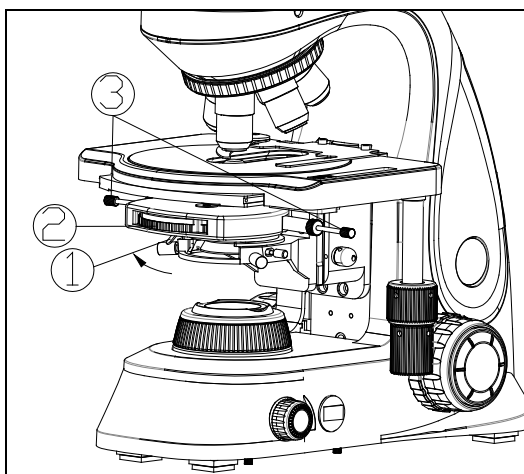

Fig. 21
Rotate the phase contrast ring② to “BF” position in bright field observation. When it sounds “ka-da” in rotating, it indicates that one diaphragm or hole is rotated into the center of optical path (see Fig. 21).